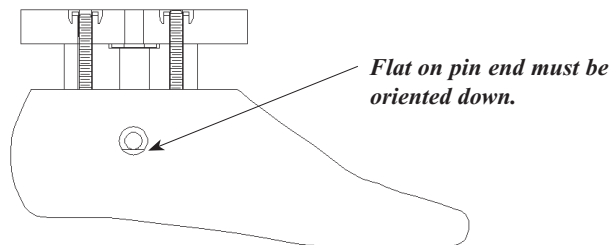

Figure 3 Lamination Assembly
7. Holding the Allen wrench so that the flat surface on the Ankle Pin is facing down, insert the Ankle Pin into the foot through either one of the holes in the sides of the foot. Rotate pin with wrench until end of pin appears as shown in Figure 3.